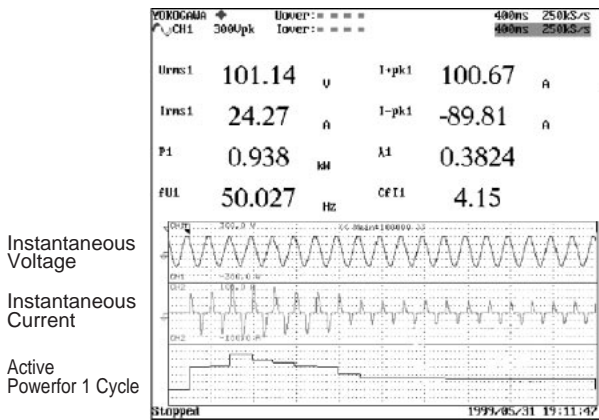

**Figure 4** Measuring Principal
- (1) Averaging by means of zero crossing data or external clock (see Figure 4)